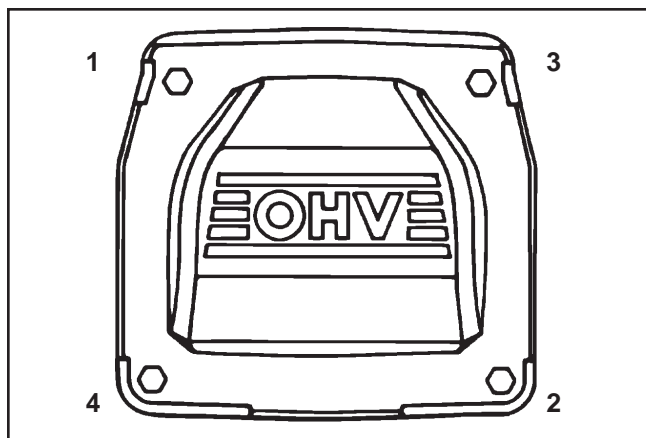

Figure 10-48. Valve Cover Fastener Torque Sequence.
5. Torque the valve cover fasteners to **6.2 N·m (55 in. lb.)** using the sequence shown in Figure 10-48.